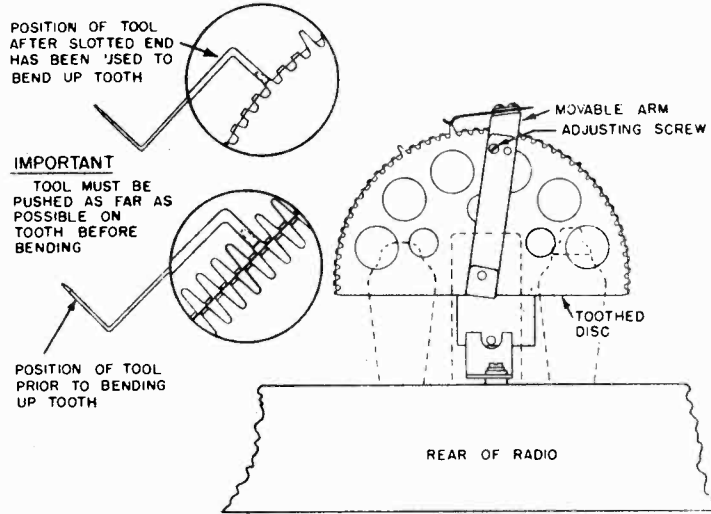

FIG. 2
4. Leaving your station tuned in, go to the rear of the radio. You will see a semi circular toothed disc, as illustrated in Fig. 2. There is also a flat spring arm, with a small rounded projection near its end, that moves over the teeth of this semi circular disc as the Station Selector knob is turned. Still leaving your station tuned in, carefully note which tooth on the semi circular disc is directly under the rounded projection of the spring arm. Mark this tooth with a pencil. Note that there is a double row of teeth and either the tooth that faces you or the tooth that faces the front of the radio may be bent up, depending upon which one is nearer the rounded projection of the spring arm. After you have marked the tooth, turn off the radio. Then tune away from the station (with the Station Selector knob, not the movable arm) and bend this marked tooth straight up, using the slotted end of the tool provided. See Fig. 2. It is important that the slot of the tool fit as far down as possible on the tooth before bending. This is necessary so that the complete tooth will be bent up instead of just part of the tooth. When this is properly done, the projection of the spring arm will touch the bent up tooth when the toothed disc is rotated by turning the Station Selector knob.
If the A.P.C. Flash Tuning mechanism does not operate properly, first check the toothed disc and spring arm. The spring arm should touch each of the teeth that have been bent up and should not touch any of the other teeth, as the Station Selector knob is turned. To adjust the spring arm, so that it does touch only the bent up teeth, proceed as follows. Loosen the screw marked, "Adjusting Screw", in Fig. 2, which will permit the spring arm to be tipped so that it does make contact only with the bent up teeth. Then tighten the adjusting screw.